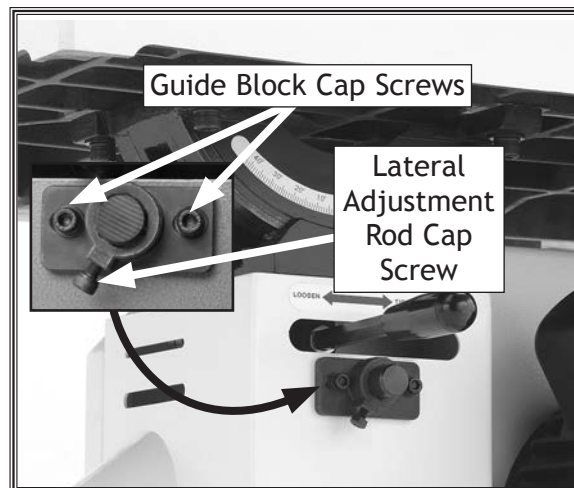

Figure 31. Lower blade guide controls (rear view).
Note: The lateral adjustment rod cap screw and guide block cap screws are located below the table tilt lock lever (see **Figure 31**).
- If the blade is not perpendicular to the support bearing, loosen the lateral adjustment rod cap screw and guide block cap screws (**Figure 31**, **Page 24**) and rotate the assembly side-to-side until it is perpendicular to the face of the support bearing, then re-tighten the cap screws.